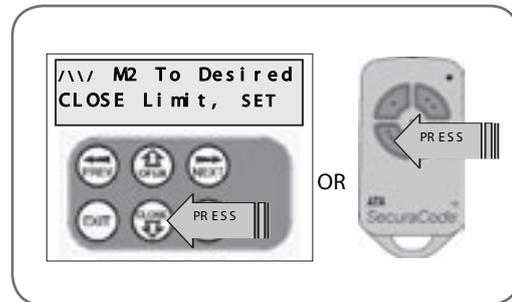

fig 22
1. Press CLOSE to move M2 gate to the desired CLOSE LIMIT (or press button 4 on transmitter) (Fig. 22).